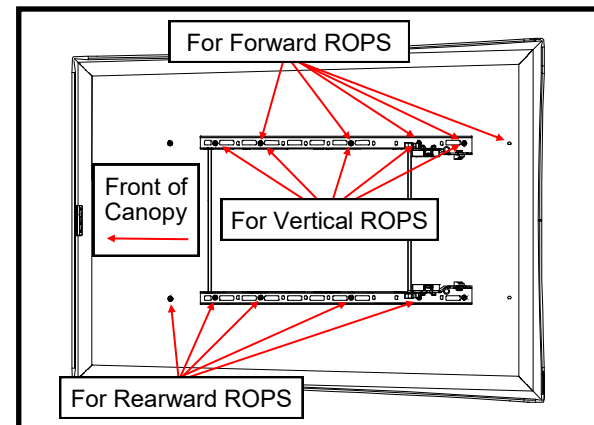

Fig. 4a (Hole Alignment)
4. See figures 4a and b. Engage the latching frame into the striker plate. Position the canopy on top of the frame. The frame has multiple slots in it to allow the canopy to move front to back a total of 12".